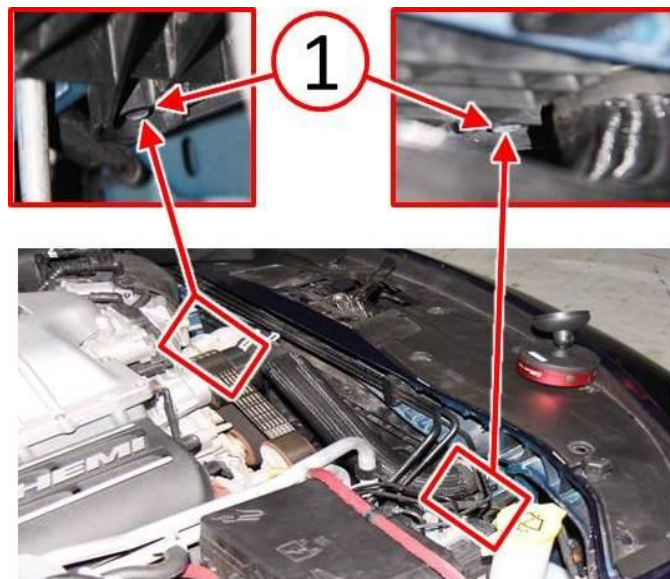

Fig. 19 Install Cooling Fan Mounting Bolts
50. Install the fan bolts securing it to the radiator. Tighten the bolts (4) to 9 N·m 80 in. lbs.) (Fig. 19).